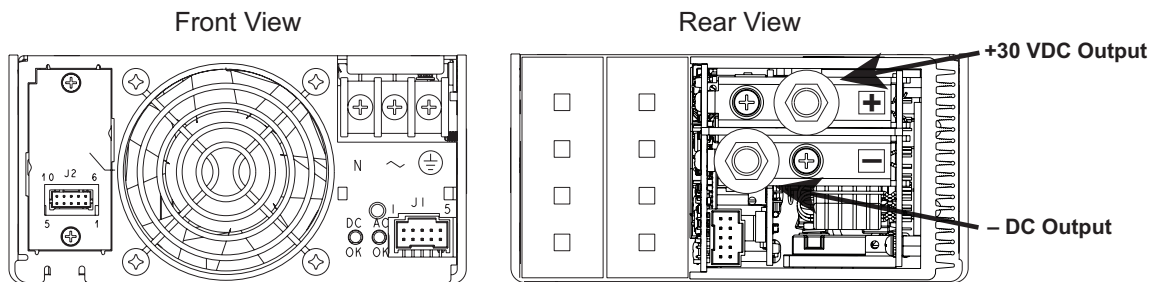

Figure 6 PS-2 (Emerson iMP4) power supply
The air-cooled v30 (SA) laser requires a DC power supply capable of providing 30 VDC at 15 A (24 A peak for a minimum of 0.5 ms) while fan-cooled (SFE) lasers require 30 VDC at 16 A (24 A peak for a minimum of 0.5 ms). We recommend the SYNRAD PS-2 a 30 V, 750 W DC power supply (shown in Figure 6). AC input requirements for the PS-2 power supply are 90–264 VAC (auto-ranging); single phase (1Ø); 10 A maximum; 47–440 Hz. To connect the PS-2 power supply, refer to Figure 6 and perform the following steps: